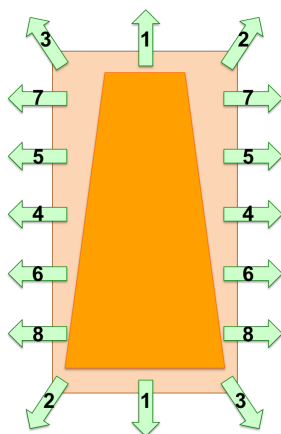

Figure 60: Overview of the stretching points.
Step 11: The location of the stretching points and the order is shown on Fig. 60.